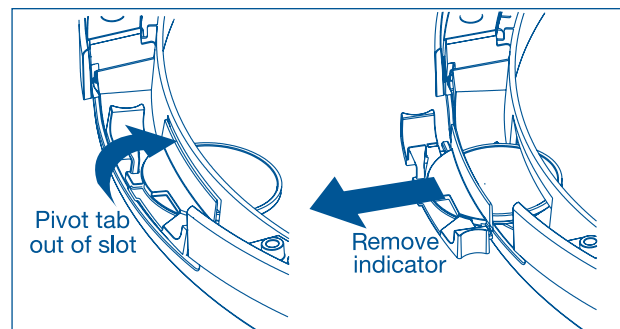

Figure 2-27.
4. Pull the indicator out and set it aside. (See Figure 2-27)